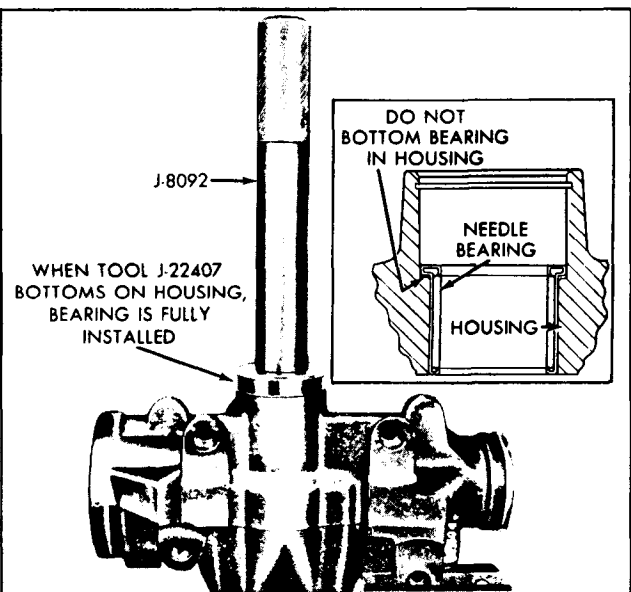

Figure 44-Installing Pitman Shaft Bearing
2. Install pitman shaft needle bearing on Bearing Installer J-22407, with shoulder on bearing against tool. Position bearing and tool in housing and press bearing into housing until bottom edge of bearing is flush with the inner housing bore surface (figure 44).